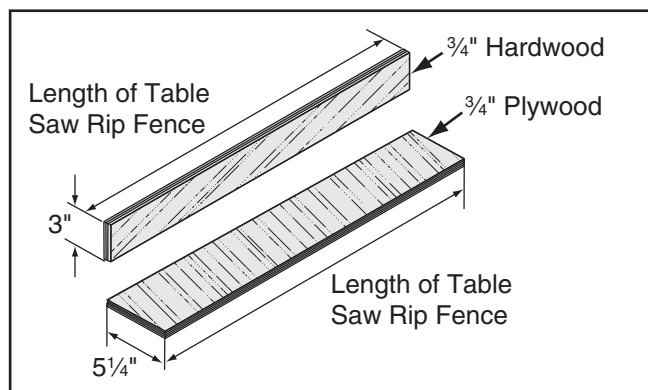

Figure 117. Auxiliary fence dimensions.
1. Cut a piece of $\frac{3}{4}$ " thick plywood $5\frac{1}{4}$ " wide and as long as your table saw fence; cut a piece of $\frac{3}{4}$ " thick hardwood 3" wide and as long as your table saw fence, as shown in **Figure 117**.